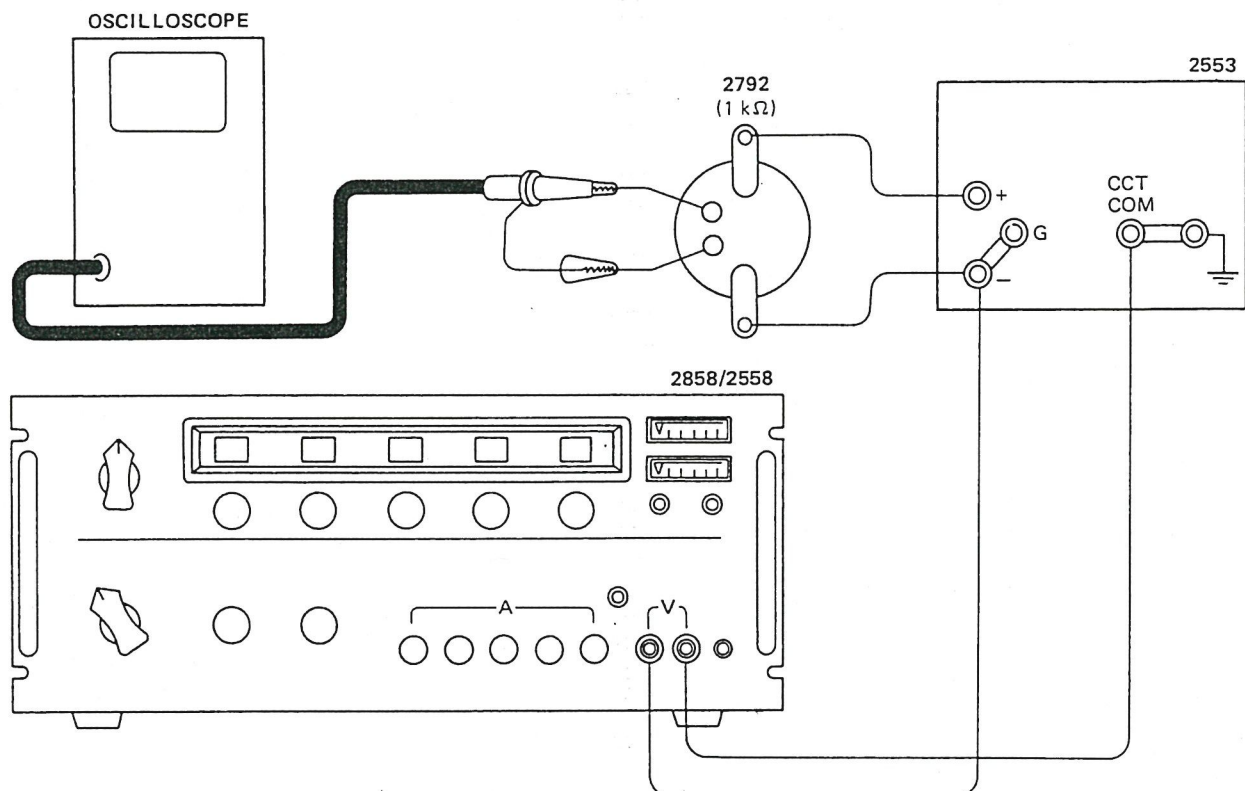

Figure 2-11. Setup for AC CMRR Inspection as Current Standard.
- Connect this instrument, oscilloscope, Type 2792 ($1\text{ k}\Omega$) and Type 2858 as shown in Figure 2-11.